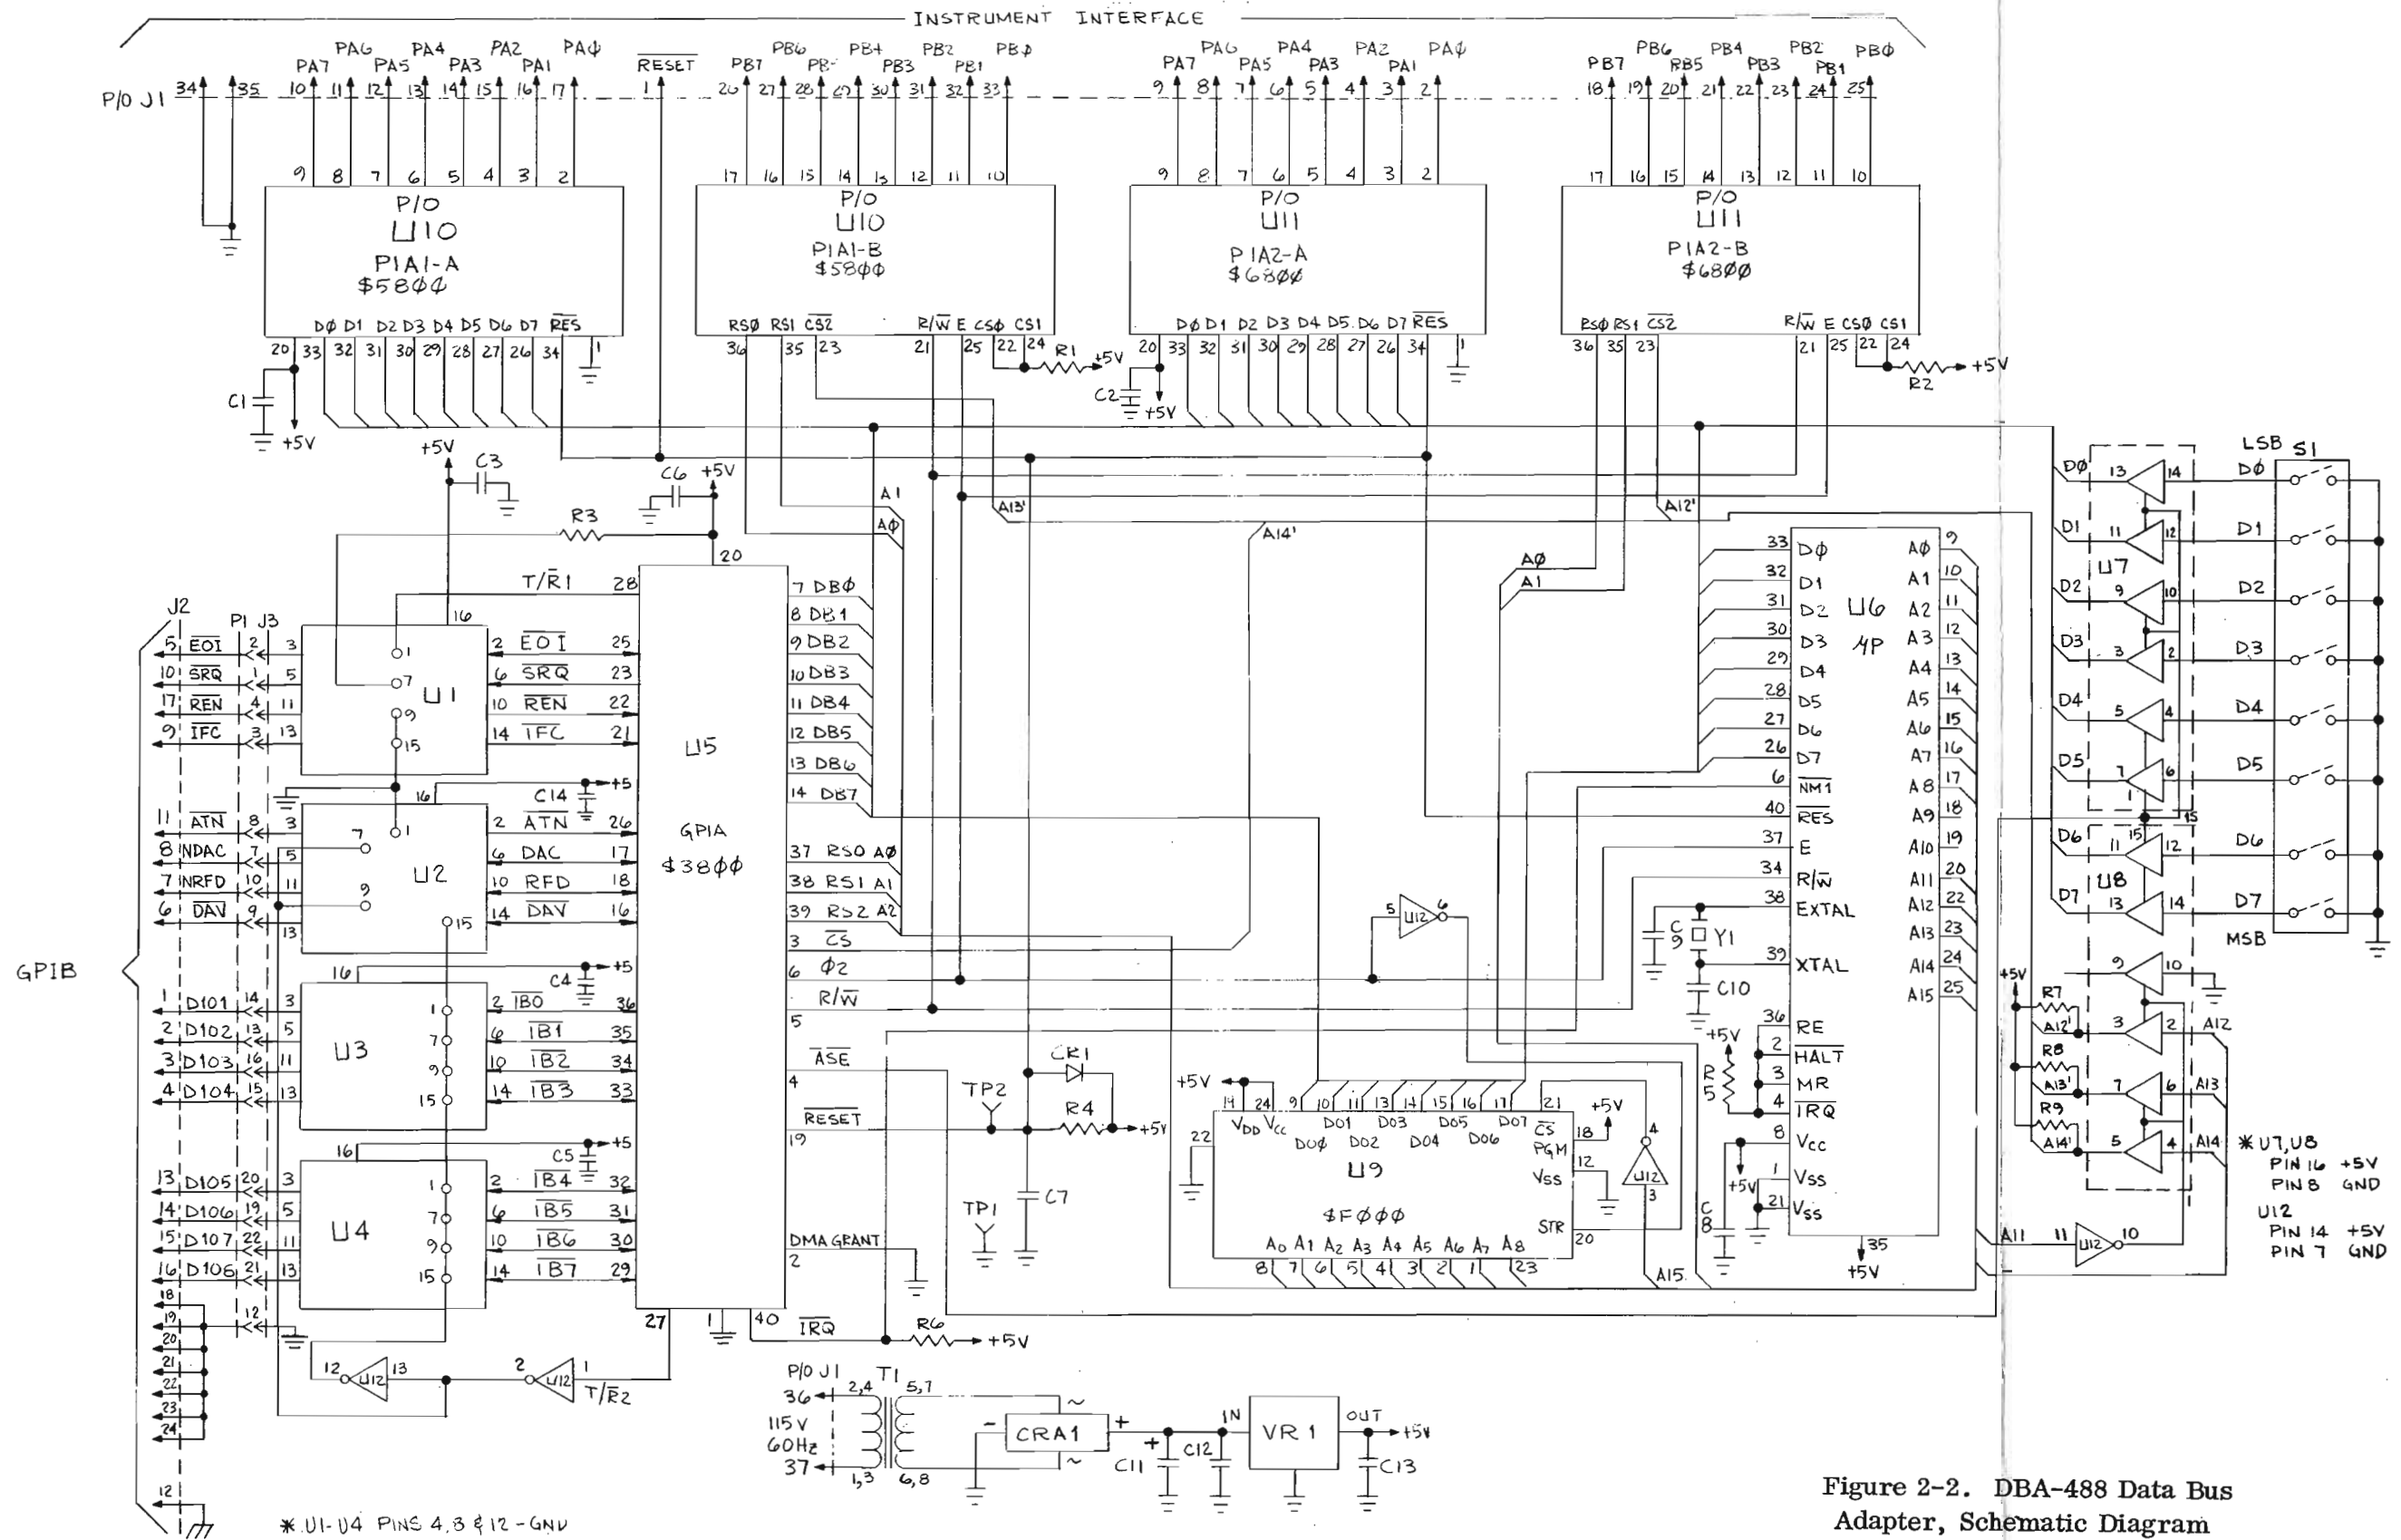

Figure 2-2. DBA-488 Data Bus Adapter, Schematic Diagram
2.3 FUNCTIONAL DESCRIPTION (See figure 2-2)